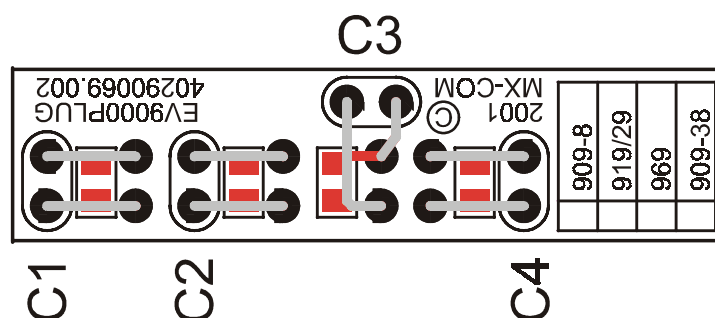

Figure 2: Blank Plug-In Personality Board
5. Older personality boards had identification tags marked “A”, “B”, etc. The latest personality boards have a mark placed against the device type with which they are to be used (eg. “909-38” for a CMX909B operating at 38.4kb/s, etc). The layout of the latest blank personality board is shown in Figure 2: when configured for a particular device, surface mount capacitors are soldered to the appropriate locations and the board is marked, as described above.
3. Select and carefully install the appropriate pair of personality plug-ins to match the selected modem according to Table 2. The layout of a blank personality board is shown in Figure 2.
Blank plug-ins are also provided and may be populated with user selected components depending upon desired baud rates and other circuit characteristics. Figure 2 shows the plug-in layout and indicates each component's function. Both through-hole and surface mount pads are provided in each component location. For an explanation of how to make component selections, refer to the relevant modem data sheets.